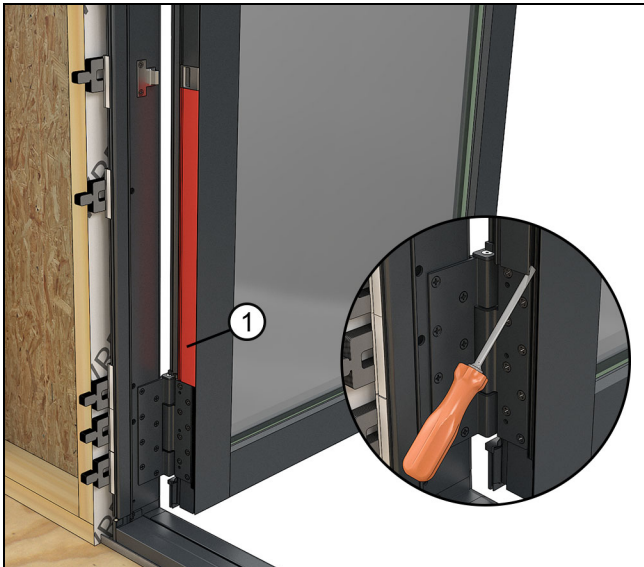
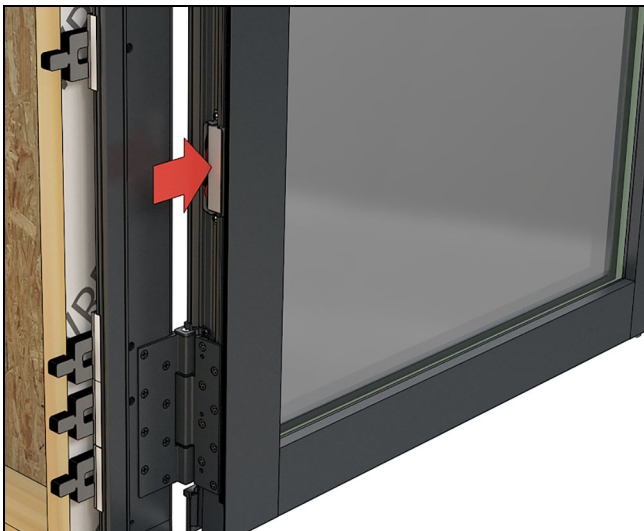

Figure 74
Figure 75
1. Transmitter Housing is in the hinge stile above the bottom hinge. Remove the vinyl cover to access the transmitter housing. See Figure 74 and Figure 75.